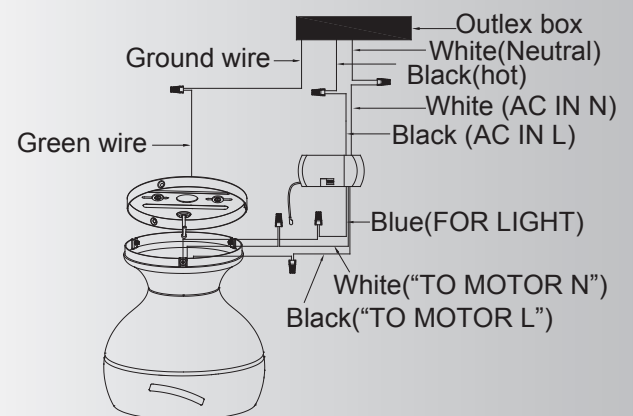

Fig. 9
**Step 1. Motor to Receiver Electrical Connections:** Connect the BLACK wire from the fan to BLACK wire marked "TO MOTOT L" from the receiver. Connect the WHITE wire from the fan to the WHITE wire marked "TO MOTOR N" from the receiver. Connect the BLUE wire from the fan to the BLUE wire marked "FOR LIGHT" from the receiver. Secure all the wire connections with the plastic wire nuts provided. ( Fig. 9)
**Step 2. Remote Receiver to Outlet Box Electrical Connections:** Connect the BLACK (hot) wire from the ceiling to the BLACK wire marked "AC in L" from the receiver . Connect the WHITE ( neutral ) wire from the ceiling to the WHITE wire marked " AC in N" from the Receiver . Secure the wire connections with the plastic wire nuts provided . ( Fig. 9)
**Step 3.** If your outlet box has a ground wire ( green or bare copper ) connect it to the fan ground wires : Secure the wire connection with a plastic nut provided. After connecting the wires, spread them apart so that the green and white wires are on one side of the outlet box and black wire is on the other side. ( Fig. 9)